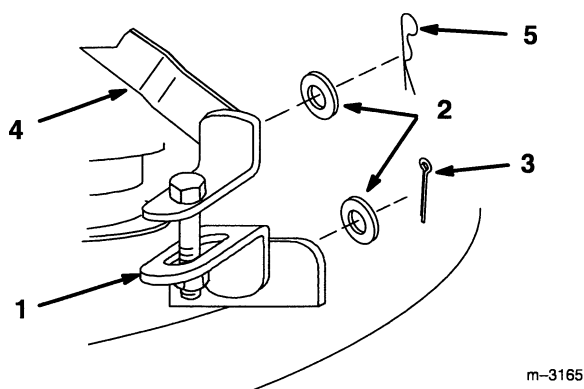

Figure 3
2. Install both front adjustable links to mower bracket with (2) 1/2" washers and (2) 1" cotter pins (Fig. 3).
8. Install both front adjustable links to front lift arms with (2) 1/2" washers and (2) 2-9/16" hairpin cottes (Fig. 3 & 5).